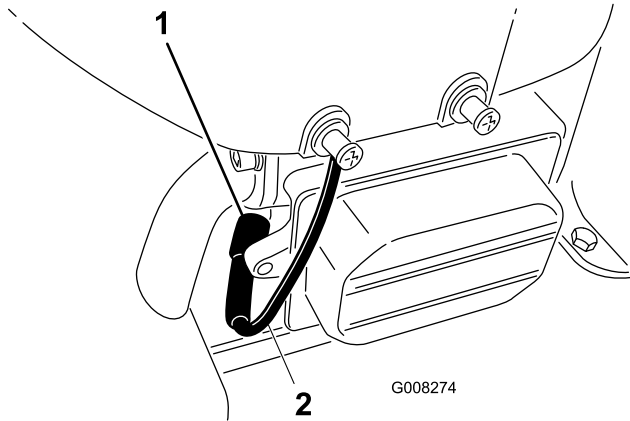

Figure 25
6. Disconnect the wire from the spark plug (Figure 25).
3. Connect the wire to the spark plug (Figure 25).
8. Remove the spark plug and the metal washer (Figure 25).